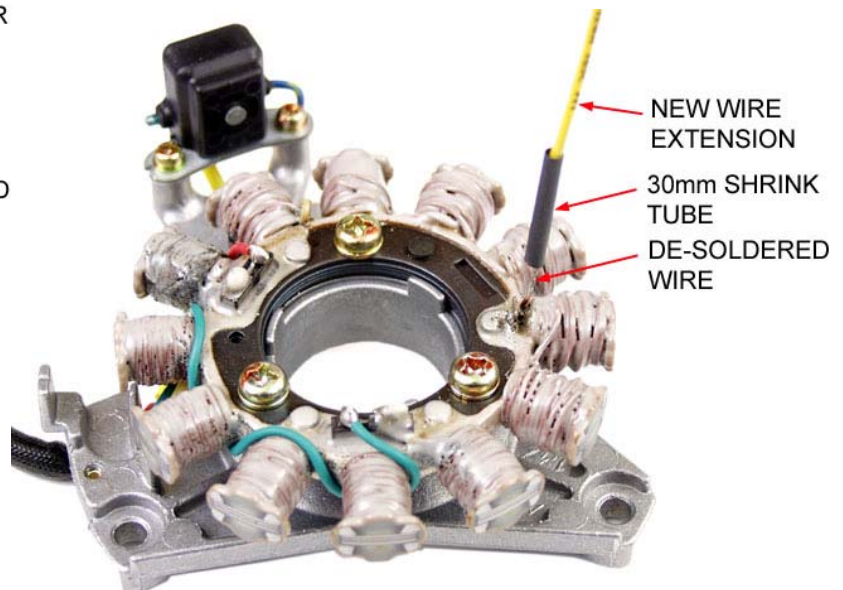

Figure 2.
- Heat solder and remove this wire from the ground lug. (see Fig. 2)
- Straiten this wire and trim if necessary. (see Fig. 2)
- Cover the solder joint w 30mm of 1/8" shrink tube to ensure that it will not contact the ground lug (see Fig. 2)